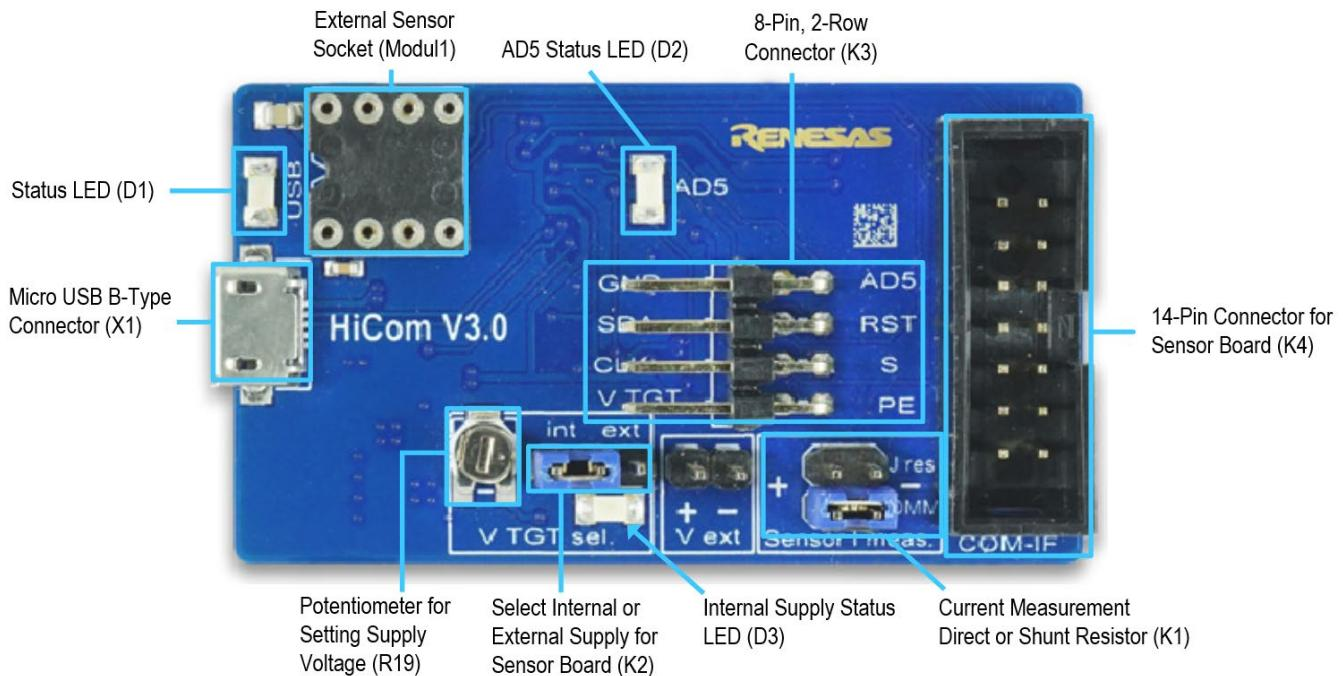
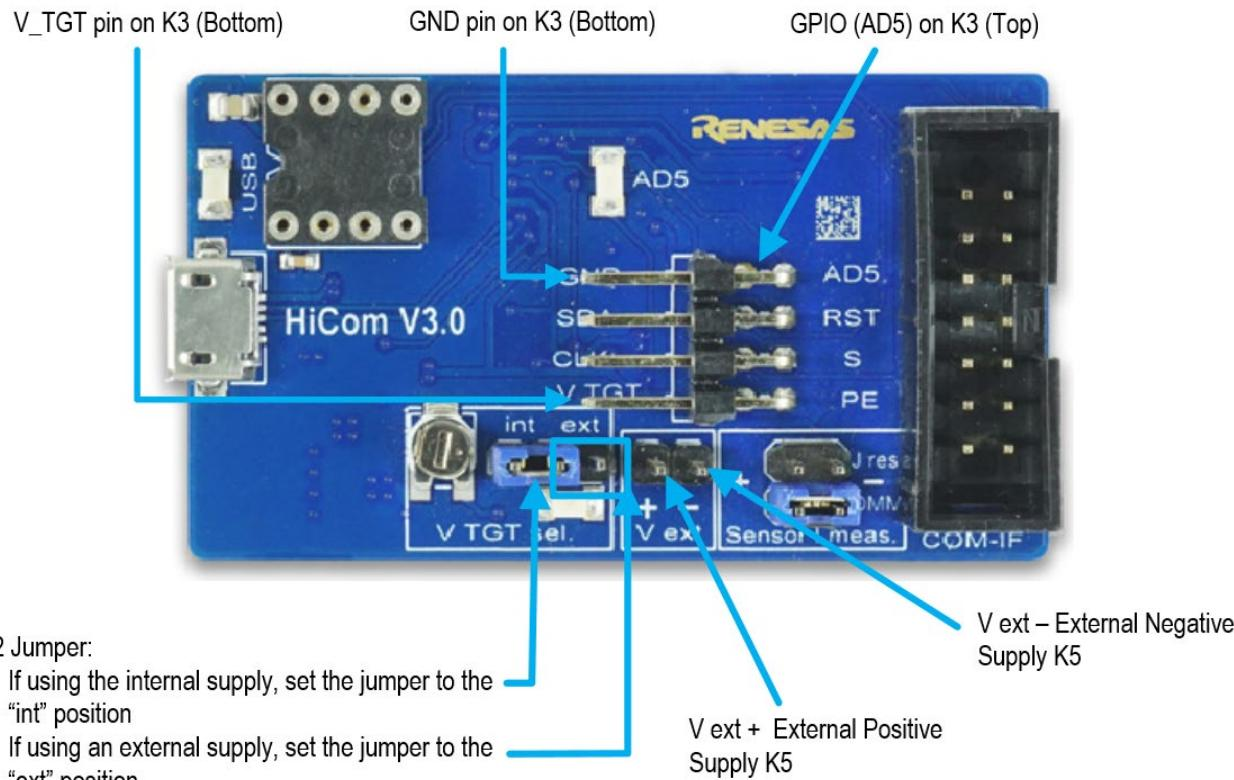

Figure 2. Jumper Settings and Connectors on Top Side of the ZMOD4410 Communication Board
Figure 3. Jumper Settings, Connections, and Test Points on the Communication Board for the Internal or External Supply Voltage
1. Refer to Figure 2, Figure 3, and Table 1 to determine the correct jumper settings for the ZMOD4410 Communication Board depending on whether an external supply or the internal voltage supply on the board is used.
- If using an external supply, ensure that the jumper is across the pins labeled “ext” on the K2 connector. In this case, without connecting the external supply to the Communication Board, verify that the external voltage supply setting does not exceed the voltage supply specifications – a minimum of 1.8V or a maximum of 3.6V – as per the ZMOD4410 Datasheet. With the external supply off, connect the external voltage to the 2-pin “ \pm V ext” header adjacent to the K2 jumper with the orientation indicated in Figure 3.
If the external voltage supply has been selected, turn on the external supply and verify that the D3 LED adjacent to the potentiometer is on (see Figure 2). *Note:* The intensity of the green D3 LED is proportional to the supply voltage.
5. If the internal voltage is used, the Gas Sensor Evaluation Software activates the internal voltage after the sensor has been started. Use the metal potentiometer to the left of the K2 connector to adjust the VDD supply voltage in the typical range from 1.8V to 3.6V as measured across the V_TGT and GND pins available on the K3 connector as shown in Figure 3. Its initial adjustment on delivery provides a voltage of $VDD \approx 2.0V$. Once a measurement has been started by the software, the green D3 LED adjacent to K2 will light with an intensity proportional to the voltage supply that was set using the potentiometer.
6. Verify that the red D1 LED is on, which indicates that the kit is properly connected and powered (see Figure 2).